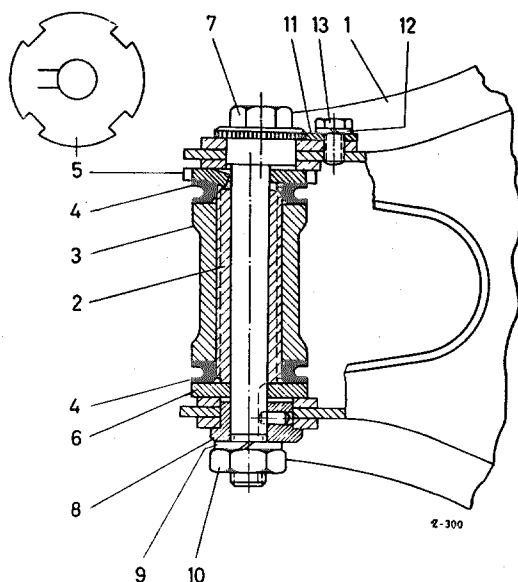

Fig. 40 — 3/6
Caster can be adjusted by turning the threaded bushing (2) (Fig. 40 — 3/6).